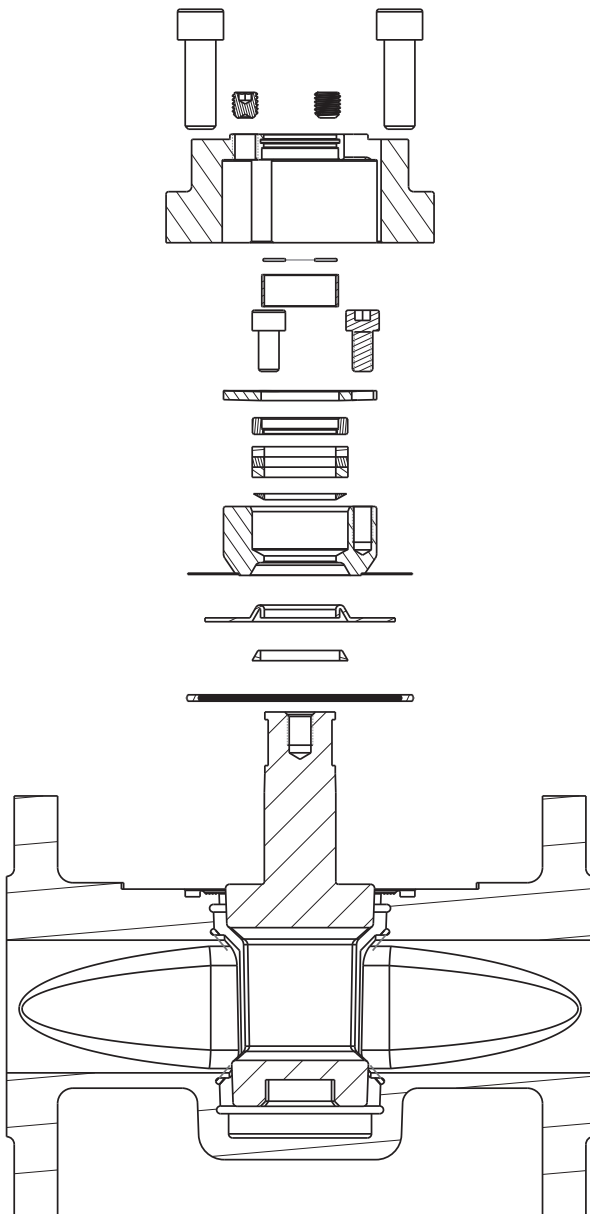

Fig. 1
1. Remove Operating Device and Cover (fig. 1)
2. Remove Seal Kit and Plug (fig. 1)